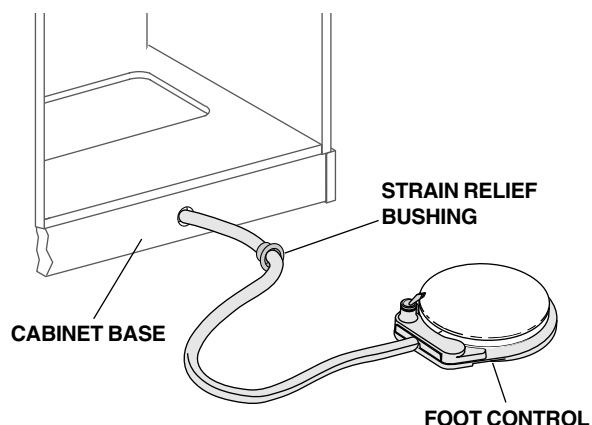

FIGURE 11
4. Insert the foot control tubing through the hole in the cabinet base. When the sheathing extends into the base, slide the strain relief bushing up the tubing and push it into the base (see Figure 11).